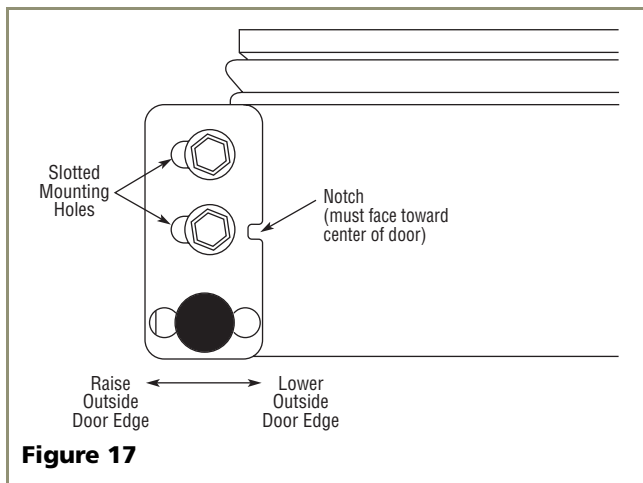

Figure 17
3. See **Figure 17**. If the top far edge of the door needs to move UP, move the hinge plate toward the outside of the door and retighten screws. If the top far edge of the door needs to move DOWN, move the hinge plate toward the inside of the door and retighten screws.